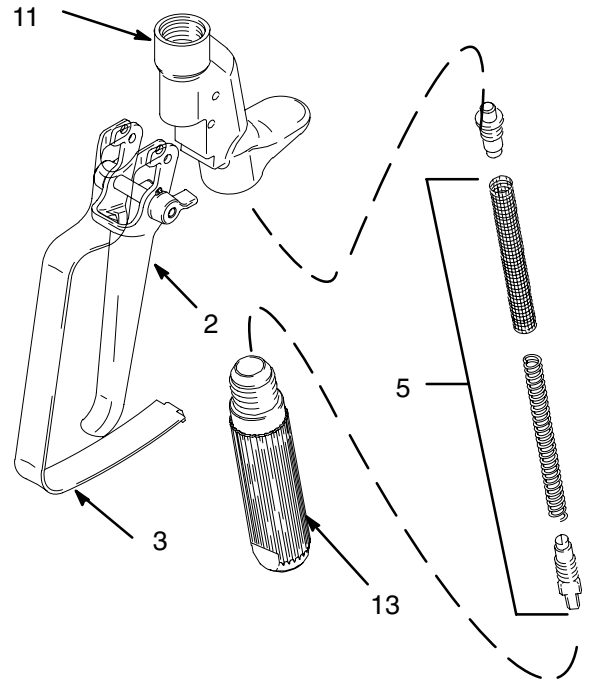

Fig. 6
Cleaning the Filter (Fig. 6)
3. Remove trigger guard (3). (Fig. 6).
4. Hold your finger against trigger with light pressure. Using a 5/16-in, open-ended wrench, turn locknut (D) clockwise until you feel trigger depress slightly.